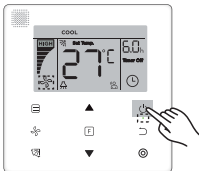

Figure 6.1
- 1) Press  (ON/OFF) button, and the Operating Indicator "●" on the wired controller will light up, while the ON/OFF icon "  " of the indoor unit on the display will spin to indicate that the indoor unit has started running. (see Figure 6.1)